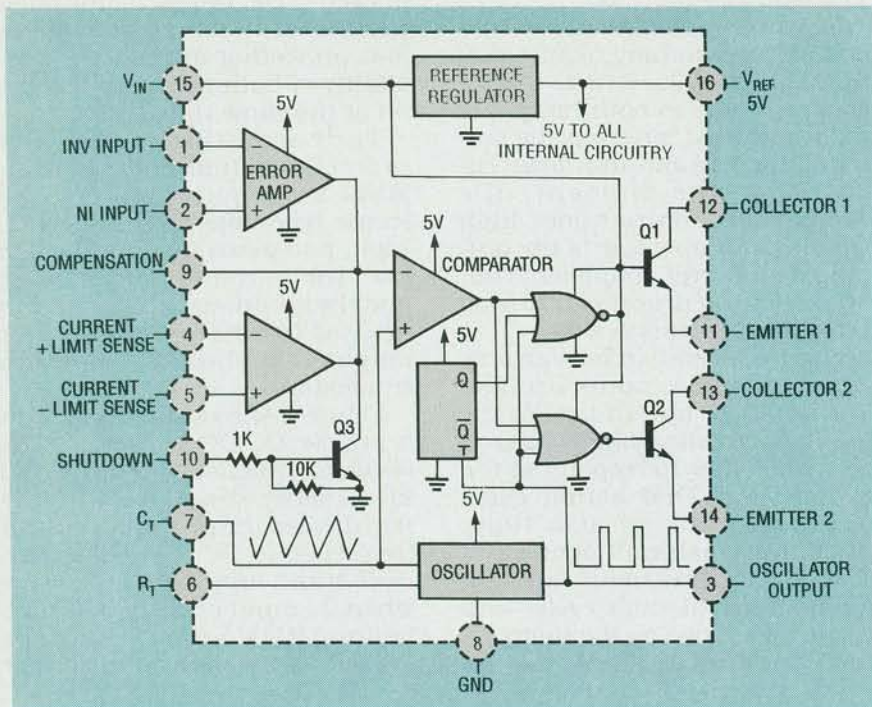

FIG. 1—INTERNAL BLOCK DIAGRAM of the SG3524 switching regulator IC.
Figure 1 shows the internal circuit of the switching regulator IC SG3524. In that circuit, the oscillator produces both ramp and pulse outputs. Ignoring the current limit (CL) and shutdown circuits for the moment, the comparator's output goes high when the ramp exceeds the output of the error amplifier. The NOR gates then go low, turning the output transistors off.